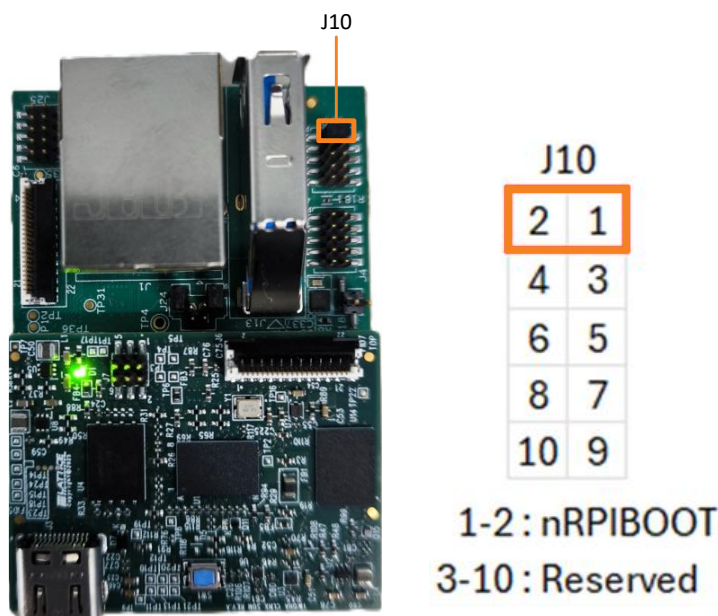

Figure 7.10. Hardware Connection for nRPIBOOT
1. Connect pin header **1 and 2** on **Jumper J10** as shown in Figure 7.10. This shorts the nRPIBOOT and enables flashing of the RPi CM5.